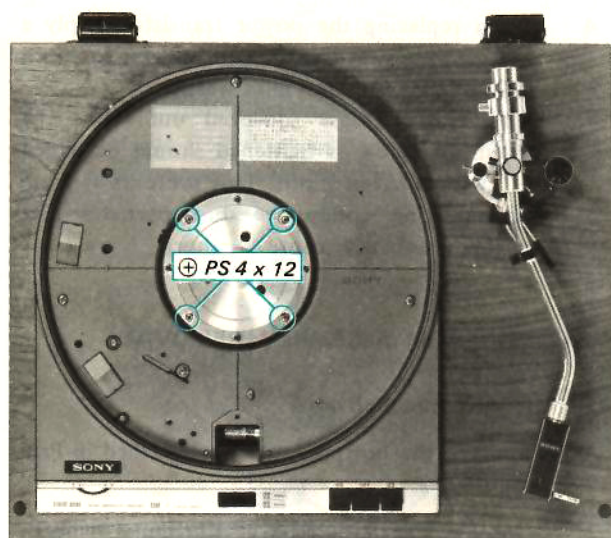

Fig. 2-7. Motor removal
3. Unsolder the motor lead wires at the terminal strip, and then remove the four screws (⊕ PS 4 x 12) securing the motor to the turntable base from the top as shown in Fig. 2-7.